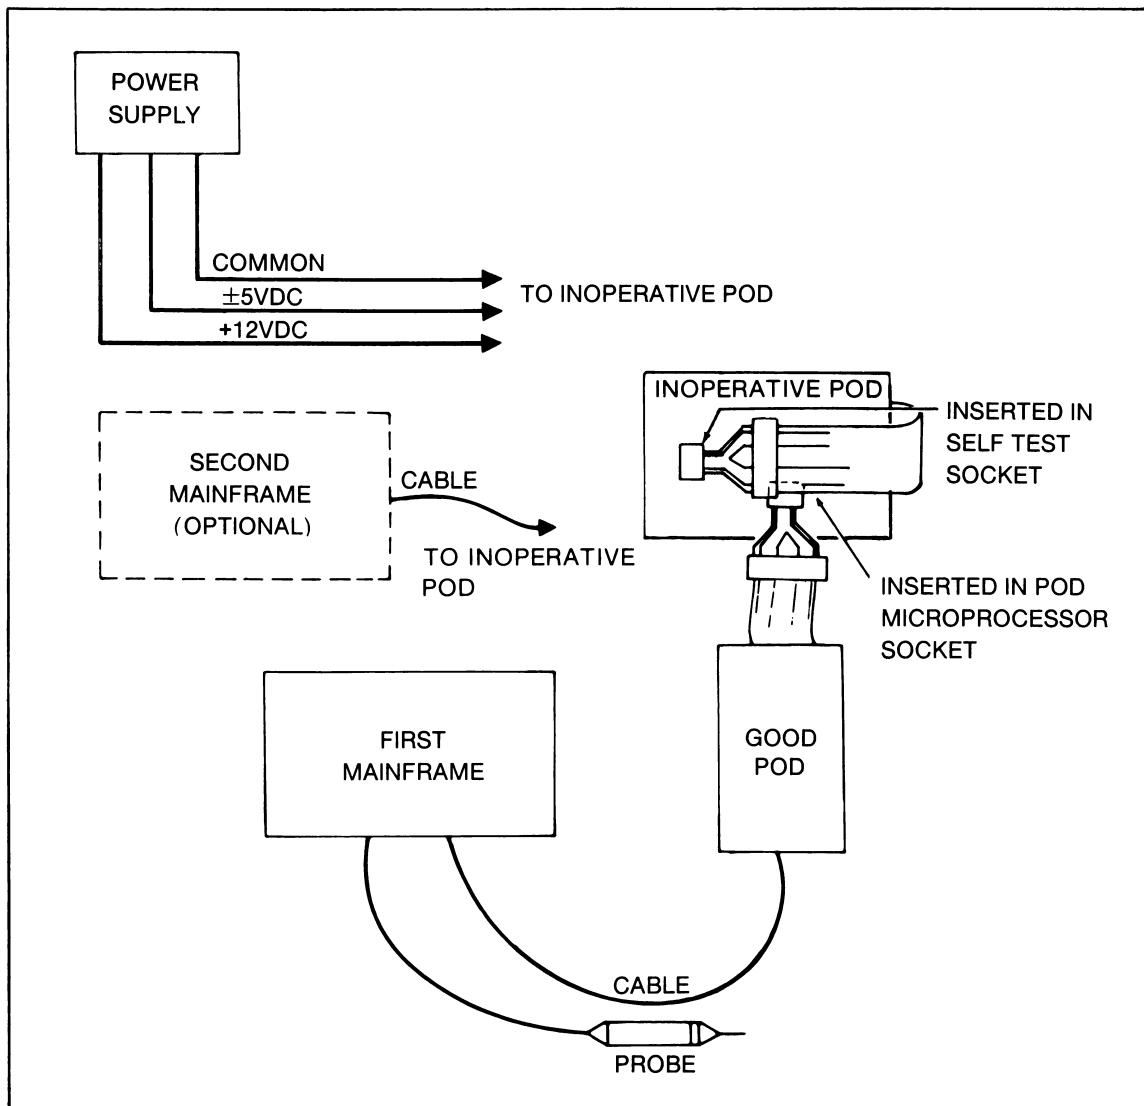

Figure 6-2. Troubleshooting an Inoperative Pod
4. If a second Mainframe is available, connect the Pod cable plug from the inoperative Pod to the second Mainframe to supply the inoperative Pod with power. If a second Mainframe is not available, connect a +5V (2 amp.), -5V (150 mA), and +12V (100 mA) power supply to the Pod as shown in Figure 6-2. An easy place to make the power connections is at the connector that normally connects the Pod to the Mainframe.
6. Connect the Mainframe to the good Pod as shown in Figure 6-2. Apply power to the Mainframe, then install the UUT cable plug of the good Pod into the microprocessor socket of the inoperative Pod.